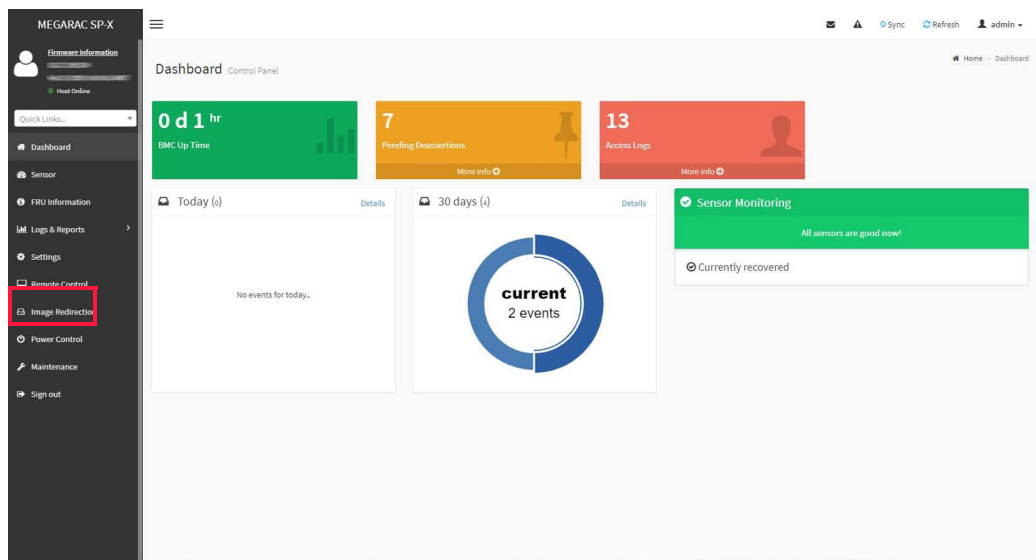

Figure 3.8 BMC WebUI Dashboard
4. The BMC WebUI **Dashboard** is automatically displayed as shown in Figure 3.8. Click **Remote Control** from the main menu.